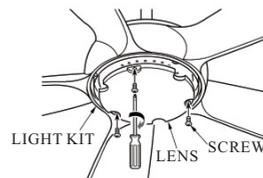

FIG. 15
5. Attach the lens onto LED light kit. (see Fig. 15)